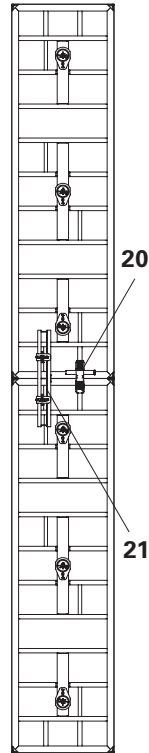

Fig. C8.01a
- H = 6.60 m, Alignment Couplers BFD (20) and Compensation Walers MAR 85 (21) are to be used on the panel joints. (Fig. C8.01a + C8.01b)